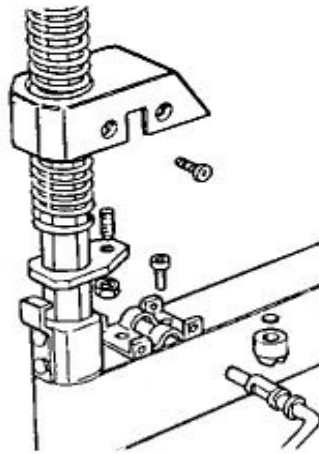

Fig 10
- 7) In the event the block support doesn't lock the tools shaft in place, or the mounting head doesn't rise at least 1/8" above the wheel rim which is necessary for working, adjust the nuts as shown in fig.10.